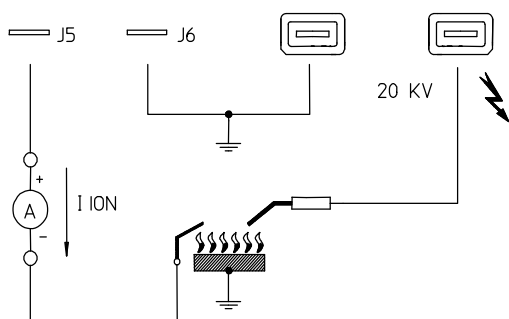

Fig.6
- the level of the flame signal is high enough (see Fig.6 for the measuring test);